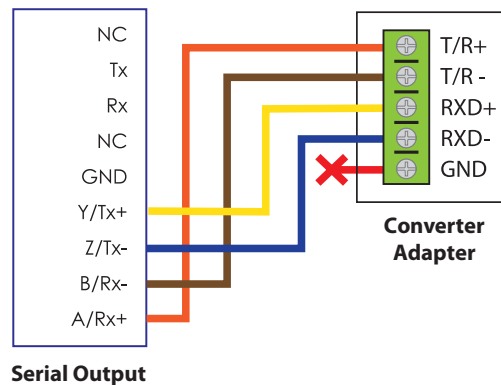

Figure 8. The connection pinout of RS485 Serial Output with ES-U-3001-M converter in RS485 mode
6. The connection wiring pinout of the control box RS485 serial output is illustrated in Figure 8.